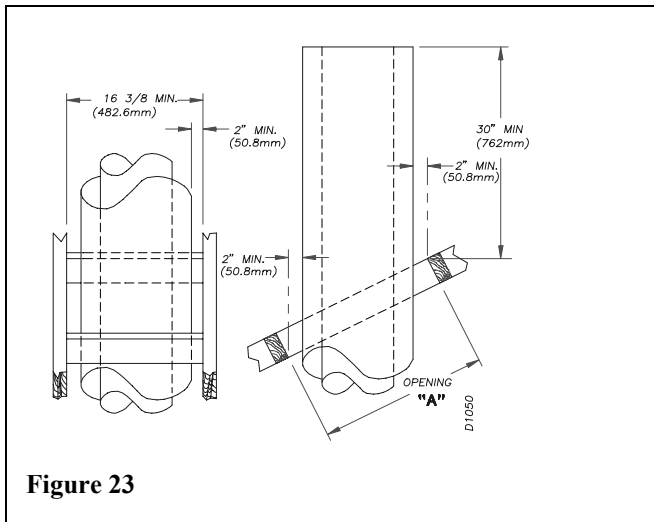

Figure 23
STEP 3: Use the roof opening chart to determine the correct opening length and flashing required (see figure 23).
STEP 5: Add the next sections of the pipe until the end penetrates the roofline. Check to see that the proper clearances are maintained. Extend chimney by adding sections of double wall pipe until pipe is a minimum of 30 inches above the highest point of the roof cutout. Termination and chimney must extend a minimum of 36 inches above the highest point where it passes through roof (see figure 23).